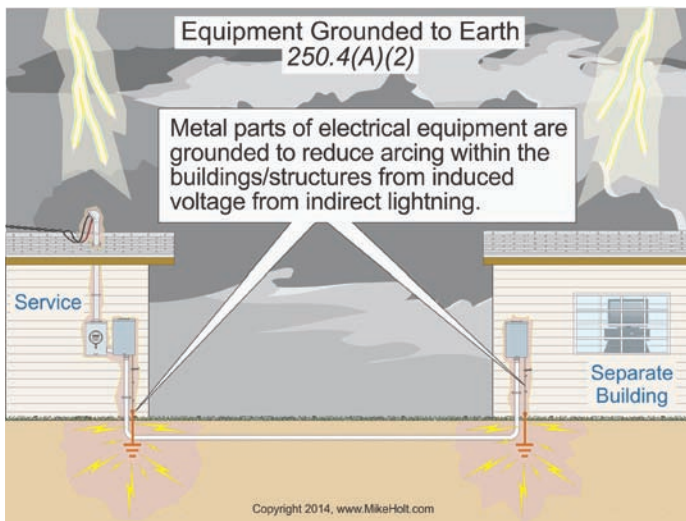

Figure 250-6
**(2) Equipment Grounding.** Metal parts of electrical equipment are grounded to reduce arcing within the buildings/structures from induced voltage from indirect lightning. Figure 250-6